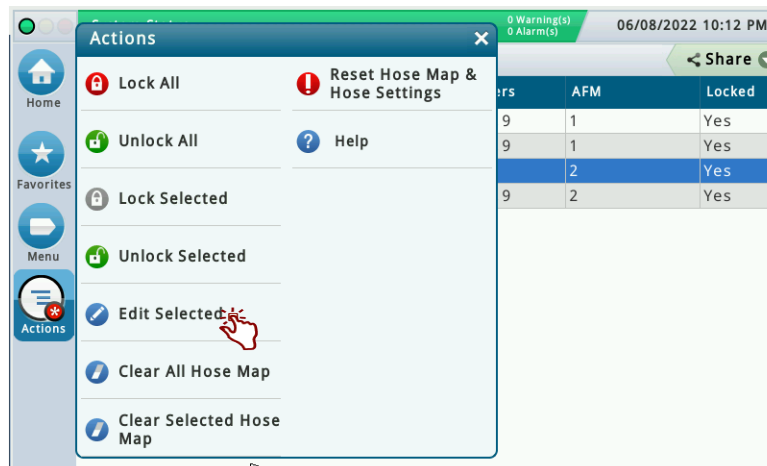
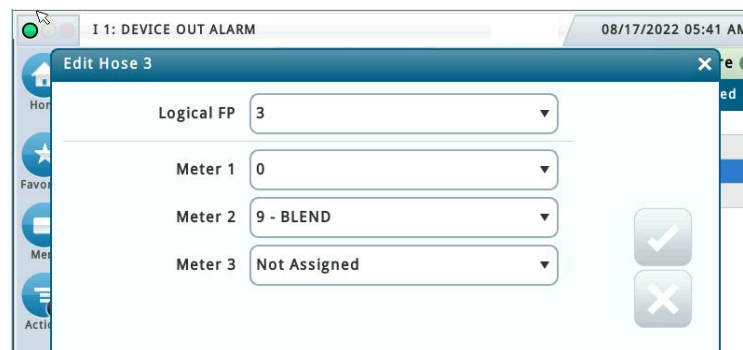

Figure 34. Example Selecting Hose 3 for Editing
Figure 35. Hose 3 Edit Screen
1. Touch Actions > Edit Selected [Web: Click Edit button] to open the hose 3 edit screen (see Figure 34 and Figure 35).